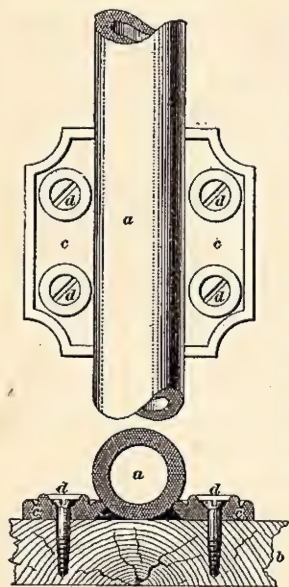

FIG. 31
45. Lead pipes 2 inches in diameter and less, which run against walls, etc., are usually supported by means of flanges, or **pipe tacks**, which are soldered on to the pipe at convenient intervals, and are fastened to the walls with common wood screws, as illustrated in Fig. 31, which shows a $\frac{3}{4}$ -inch lead pipe *a* secured to a wall or pipe board *b* by molded pipe tacks *c, c* and 1-inch wood screws *d, d*, etc.